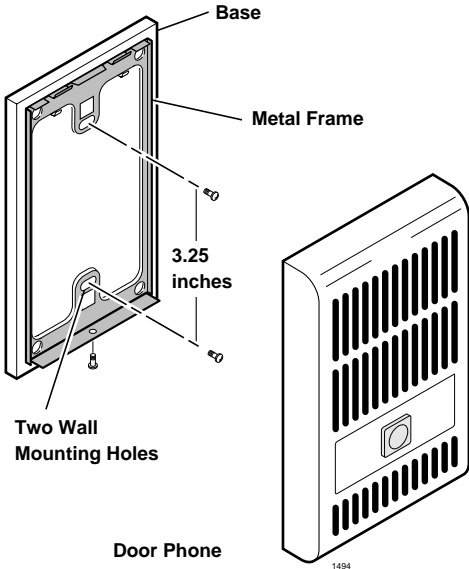

Figure 9-17 Door Phone (MDFB) Installation
1. Remove the screw from the bottom of the cover. Detach the cover from the base and metal frame (see Figure 9-17).